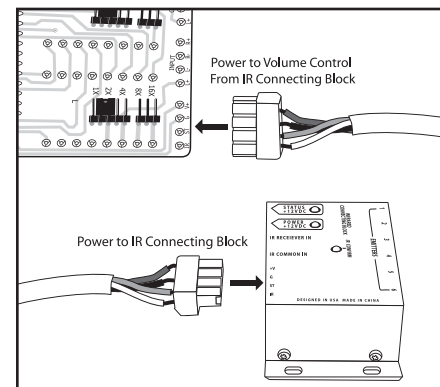

Figure 6
- Wire the power in terminal to the power out terminal on the IR connector block; see Figure 6.